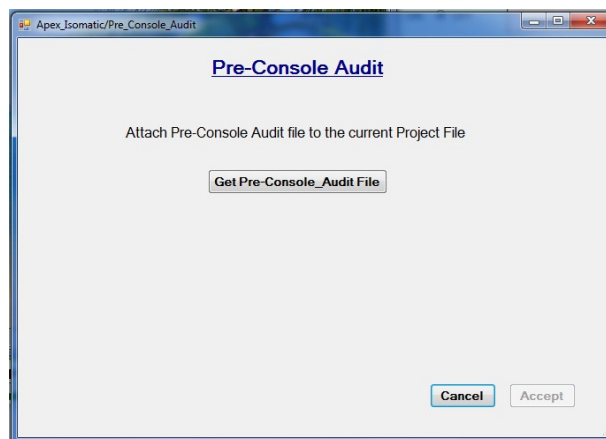

Figure 24 - Pre-Console Audit Menu Screen
- Click the **Get Pre-Console\_Audit File** button depicted in the Pre-Console Audit menu, Figure 24, below, to attach an Audit data file to the current test file. The Audit file will be attached to the test record when the **Accept** button on this screen is clicked and the program will return the user to the Main Menu.